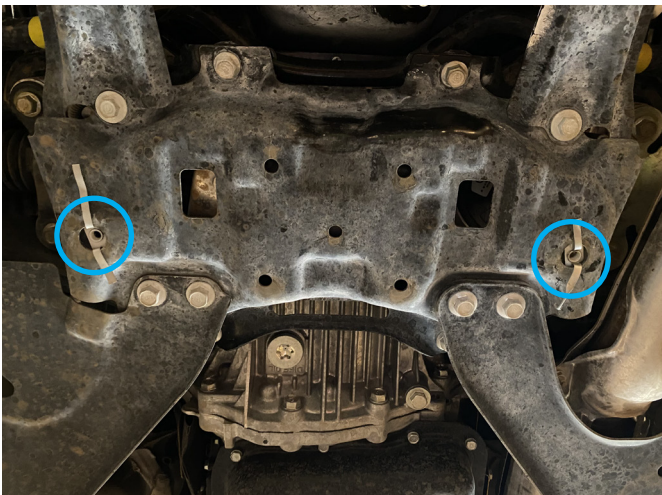

Fig.3
3. Install M8 14x60 insert nuts (Item. D) into rear mounting points on the frame as shown in Fig. 3.